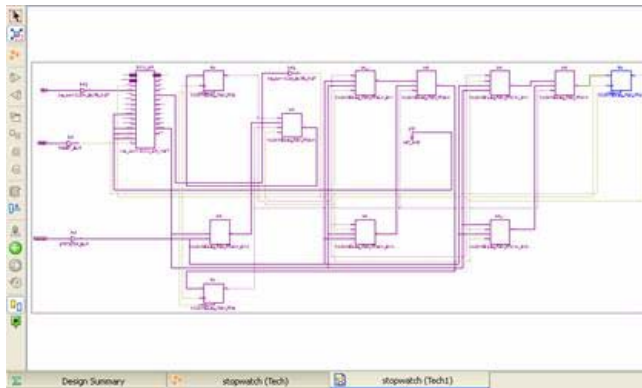

Figure 7-2: Adding Input
3. Select the visualized Flip-Flop, and select **Add Input Cone** from the right-click menu. You will see the input as shown in Figure 7-2.